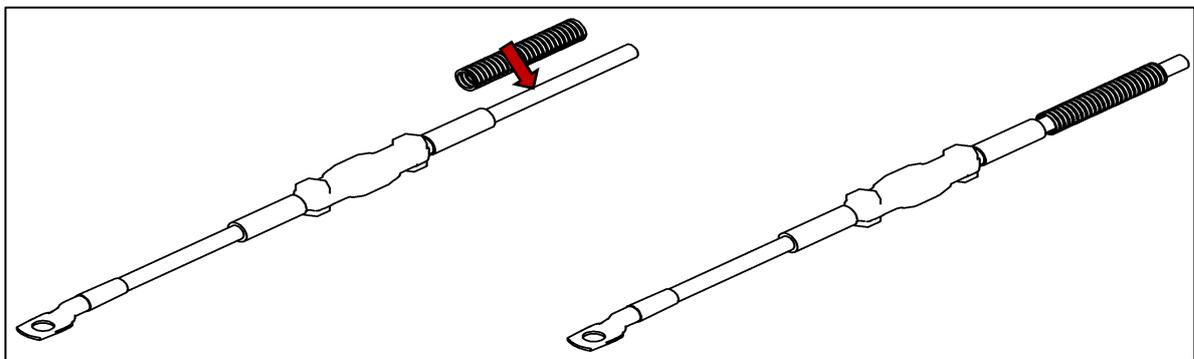

Figure 16
- Insert the positive cable (25 mm2 red) ("power unit cable") for the power supply into a length of slit corrugated tubing (see Fig. 16).